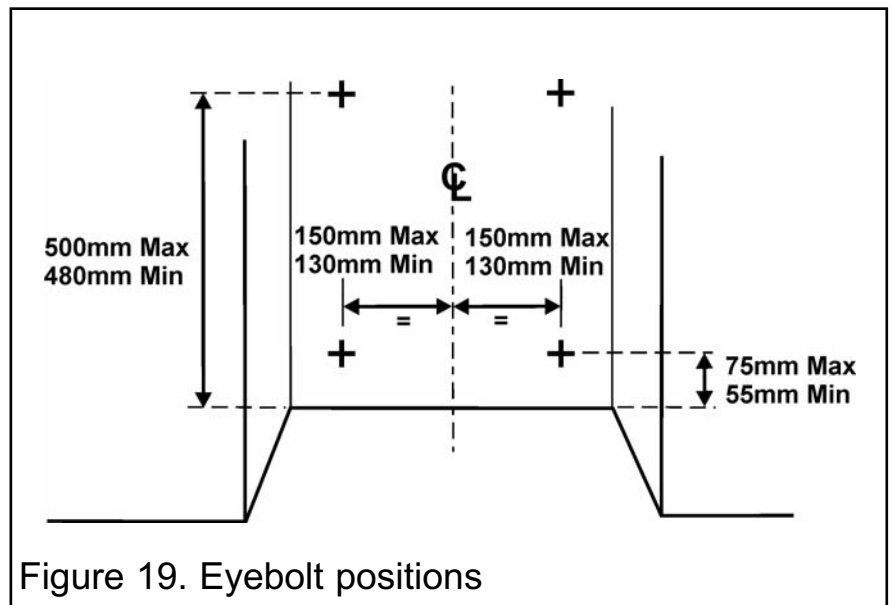

Figure 19. Eyebolt positions
2. Drill four holes in the rear wall of the fireplace for the eyebolt plugs. The holes should be drilled within the range of positions shown in figure 19 using a suitably sized masonry drill for the fibre / wooden plugs supplied. The holes should be equidistant each side of the